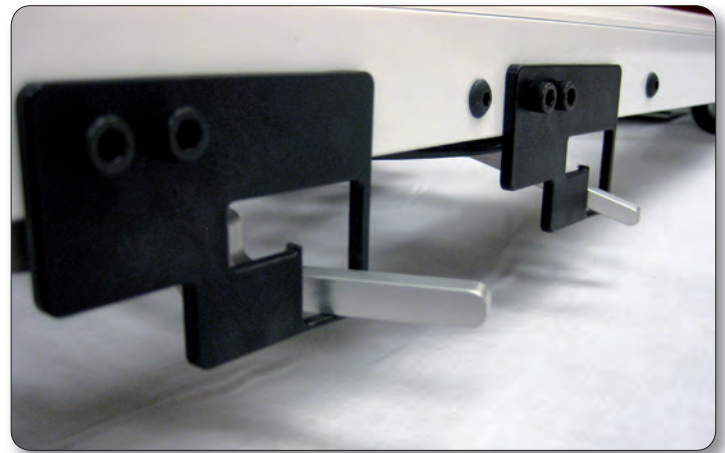

Figure 26
1. To move the HQ quilting machine around on the table after the program has loaded, press the “Engaged” button on the top right-hand side of the touch screen. This toggles the motors between being “engaged” and being “disengaged.” Use the mechanical disengagement levers on the right-hand side of the carriage to physically disengage the white carriage gears from the blue racks (Figures 26 & 27). This allows true “free motion” quilting with no added resistance from the HQ Pro-Stitcher. For both levers, the Down position is “Engaged” and the Up position is “Disengaged.”